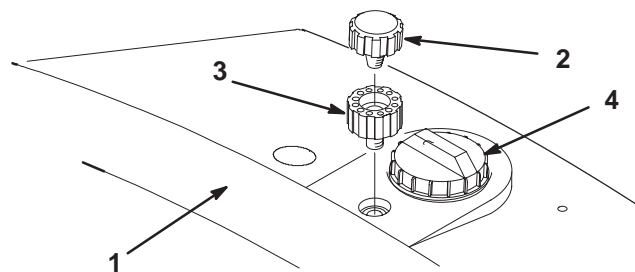

Figure 6
1. Remove the breather cap from the hydraulic reservoir (Fig. 6).
2. Thread the breather extension into the reservoir (Fig. 6).
3. Thread the breather cap into the breather extension (Fig. 6).